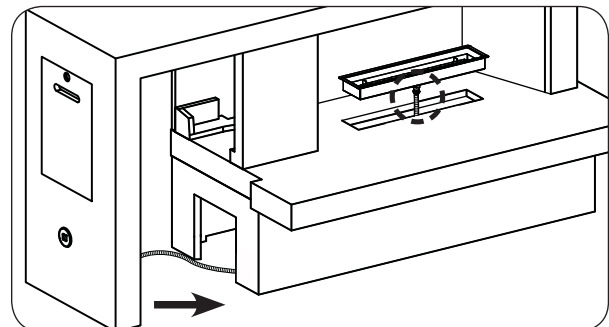

Fig. 16-5 Route flex to burner and connect
9. Locate the flex connector (marked OUT) that is coming off the valve assembly. Route it to the connection into the left side of the unit and up to the burner assembly, then connect. Tighten securely. (see Fig. 16-5.)